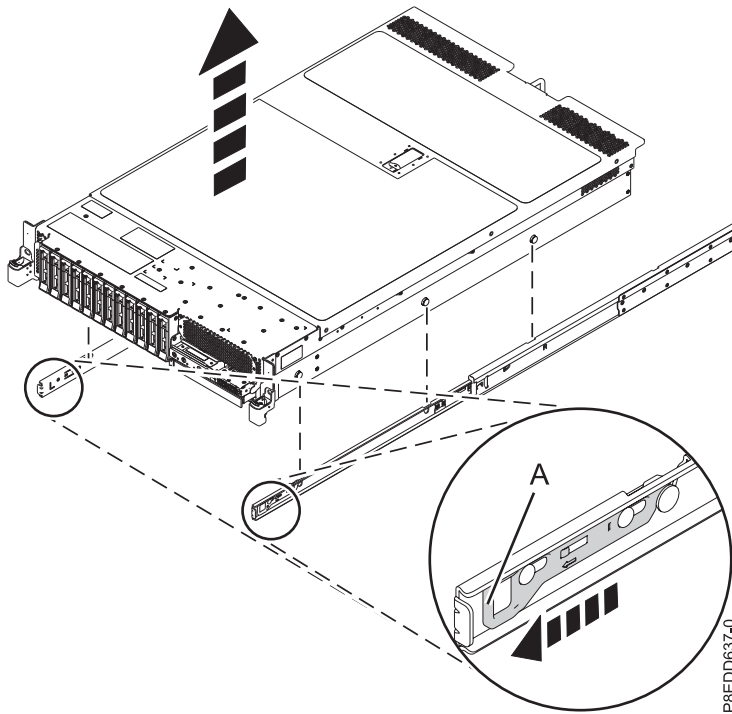

Figure 151. Removing the system from the rack
- a. Pull rail latch (A) toward you, then carefully lift the front of the server until the front nail heads slip out of the front slots on both of the slide rails, as shown in Figure 151 on page 160.